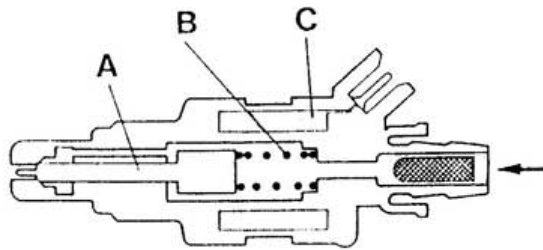

Fig.1 Injector
- Each injector contains a needle valve (A) as seen in Fig.1 which is held closed in the rest position by a coil spring (B). When the electrical solenoid (C) is energized, it lifts the needle valve to allow the fuel to pass; and when the solenoid is de-energized, the spring snaps the needle valve closed to cut off the fuel flow.